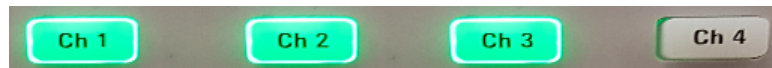

Figure 6-1: Ch 1, Ch 2, and Ch 3 key illuminates when selected
5. Press the required channel key ([Ch 1], [Ch 2], [Ch 3] or [Ch 4]) on the front panel. The selected channel key is illuminated. See Figure 6-1.